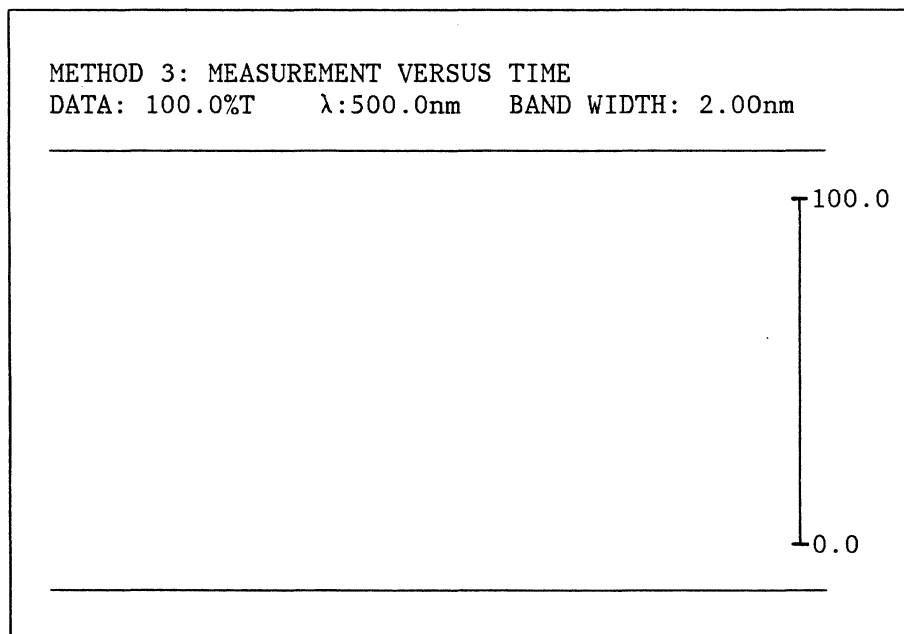

Figure 5-1. Method 3 Display
1. Press the **Method**, **3** and **Enter** keys to enter the method. The CRT will display the measurement axis as shown in Figure 5-1.